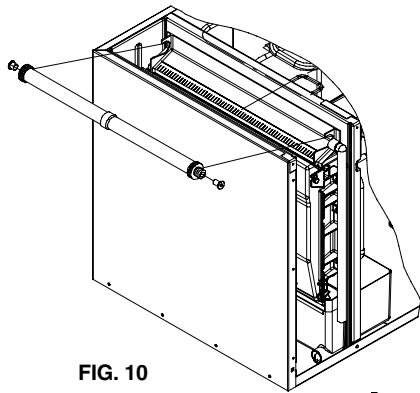
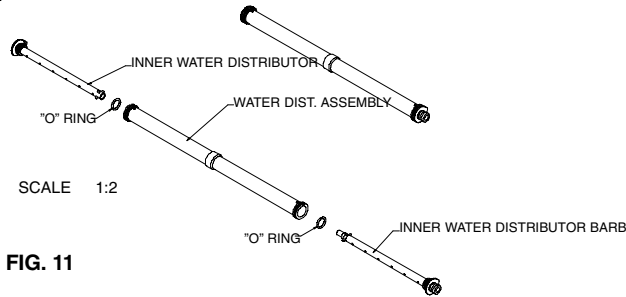

FIG. 10
FIG. 11
4. Remove the water distributor tube (refer to fig. 10), disassemble water distributor tube (refer to fig. 11), and clean with the brush and "Calgon Nickel Safe" ice machine cleaner.